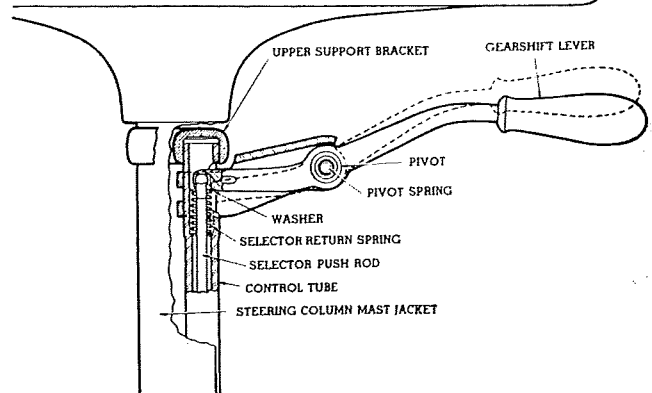

Fig. 6—Chevrolet 1939. Gearshift Lever Cross Section
steering wheel. (2)—On Master DeLuxe only, take out mast jacket bearing retaining spring. (3)—Disconnect "U" clamp which attaches steering gear to instrument panel bracket. (4)—Raise toe-board grommet up on mast jacket about 12 inches. (5)—Disconnect selector rod from selector lever, and the shift control rod from shift control lever. (6)—Remove lock nut and selector control lever guide from end of selector control shaft. (7)—Unfasten lower support bracket screws and unscrew bracket from the control shaft. (8) Remove the clamp from control shaft lever and the counterbalancing spring from the lower end of control shaft, after which, the control shaft and hand control lever may be removed. (9)—(See Fig. 6.) Remove the hand control lever by pressing the pivot pins on both sides of the housing; then remove the selector push rod from the top of the control shaft.